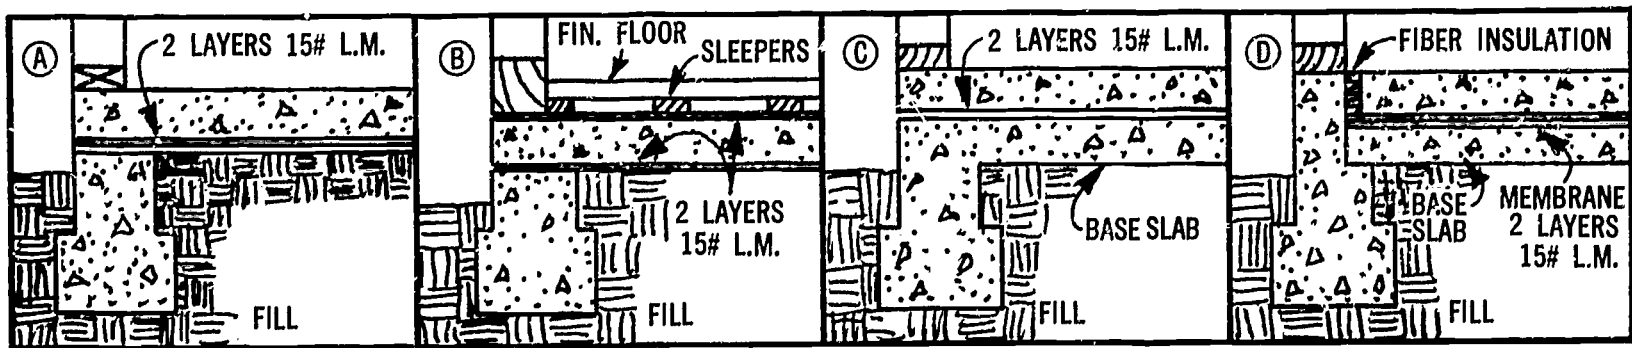

Fig. A-27. Typical residential floor waterproofing
Section views of typical residential floor waterproofing are shown in Fig. A-27.
In geographic areas where freezing may be expected, the floor slab is completely isolated from exterior weather conditions as shown in Fig. A-27 (D). This type of floor may also be constructed without a base slab. Fiber insulation may be included between the floor and the foundation as indicated.